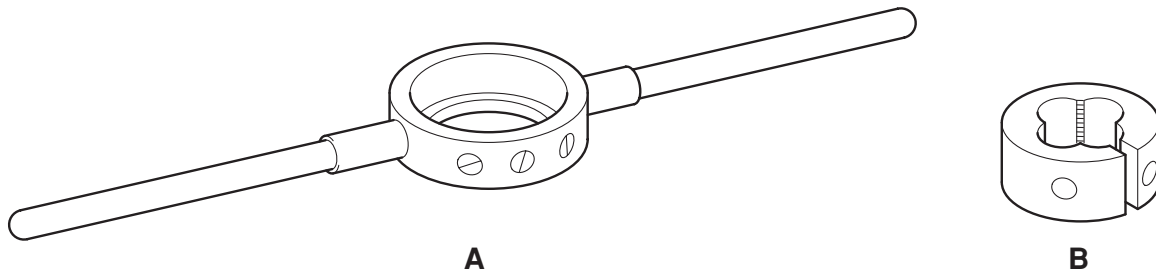

Fig. 1
- 2 Fig. 1 shows two parts of a workshop tool.